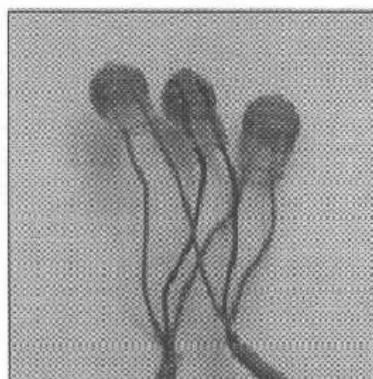

Figure 2-10. Completed Scotchlok Splices
- 7 Inspect the Scotchlok to verify that both wires are fully inserted. If they are not, redo the splice (Figure 2-10).